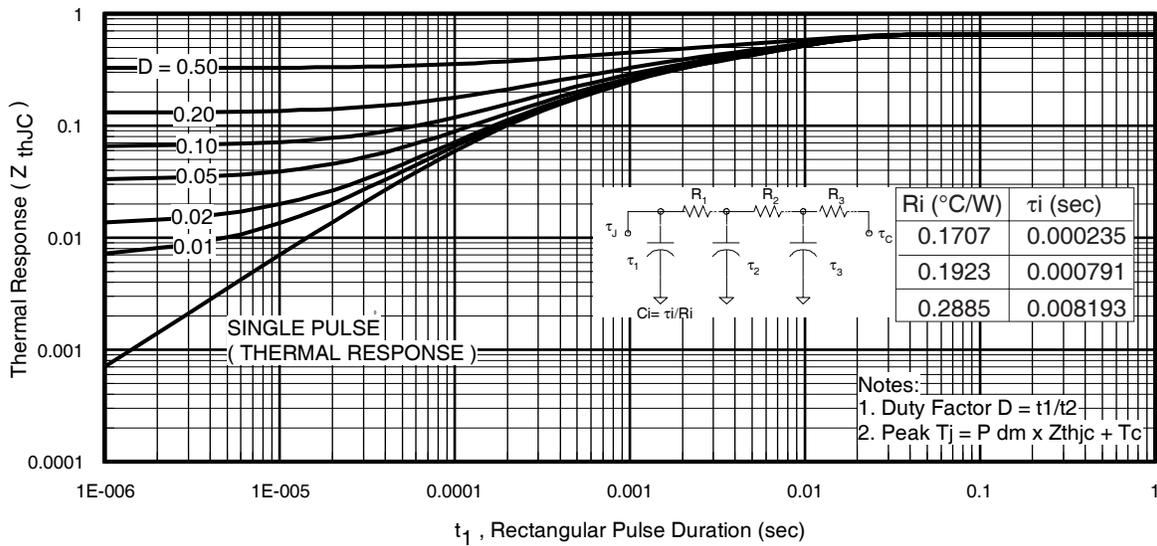
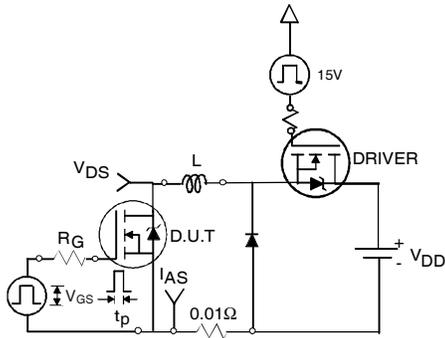

Fig 11. Maximum Effective Transient Thermal Impedance, Junction-to-Case
Fig 12a. Unclamped Inductive Test Circuit
- ① Repetitive rating; pulse width limited by max. junction temperature. (See fig. 11).
- ② Limited by T_{Jmax} , starting $T_J = 25^\circ\text{C}$, $L = 0.064mH, R_G = 25\Omega, I_{AS} = 88A, V_{GS} = 10V$. Part not recommended for use above this value.
- ③ Pulse width $\leq 1.0ms$; duty cycle $\leq 2\%$.
- ④ $C_{oss\ eff.}$ is a fixed capacitance that gives the same charging time as C_{oss} while V_{DS} is rising from 0 to 80% V_{DSS} .
- ⑤ Limited by T_{Jmax} , see Fig.12a, 12b, 15, 16 for typical repetitive avalanche performance.
- ⑥ This value determined from sample failure population. 100% tested to this value in production.
- ⑦ This is applied to D²Pak, when mounted on 1" square PCB (FR-4 or G-10 Material). For recommended footprint and soldering techniques refer to application note #AN-994.
- ⑧ R_{θ} is measured at T_J of approximately 90°C .
- ⑨ Solder mounted on IMS substrate.
3. Equation below based on circuit and waveforms shown in Figures 12a, 12b.
$Z_{thJC}(D, t_{av})$ = Transient thermal resistance, see figure 11)